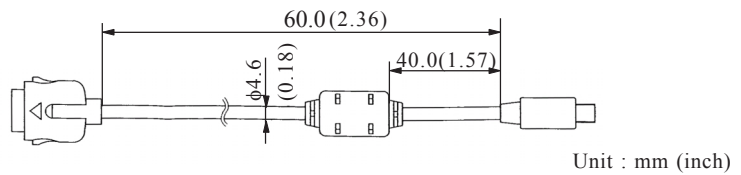

Fig. 4-5 Direct Interface Cable DIF-100
- The dimensions are shown in Fig. 4-5.